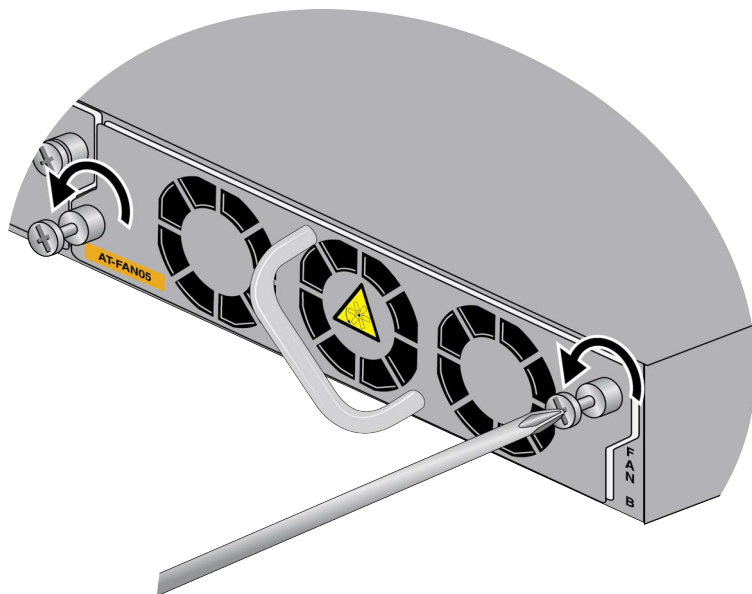

Figure 140. Loosening the Screws on the Fan Module
1. Use a #2 Phillips-head screwdriver to loosen the two screws on the faceplate of the fan module. Refer to Figure 140.